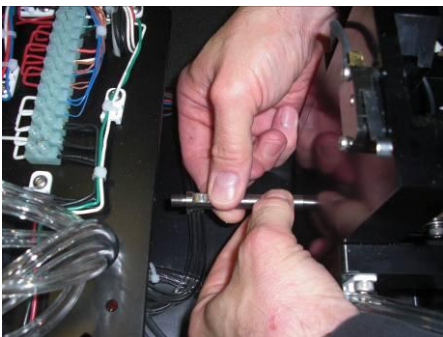

Figure 3 - Aligning the pin
- Insert the pin tip into the hole near the bottom of the magazine rack. Slide the pin through the hole until it is horizontal within the CRD600 (Shown in figure 3 below).